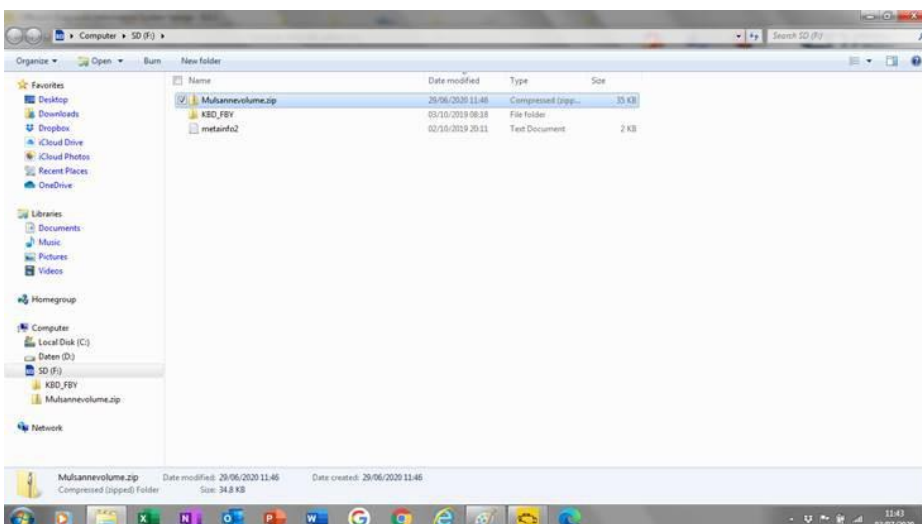

Figure 2
5. All software files will now be visible as below (Figure 2)